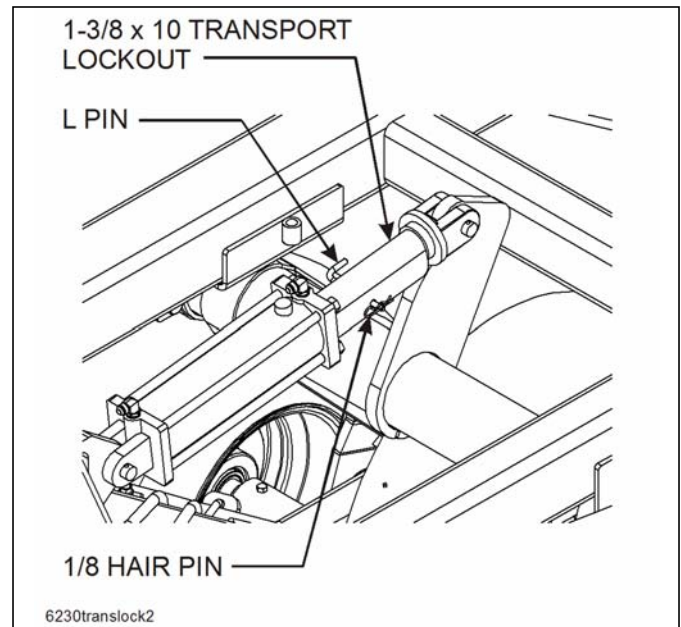
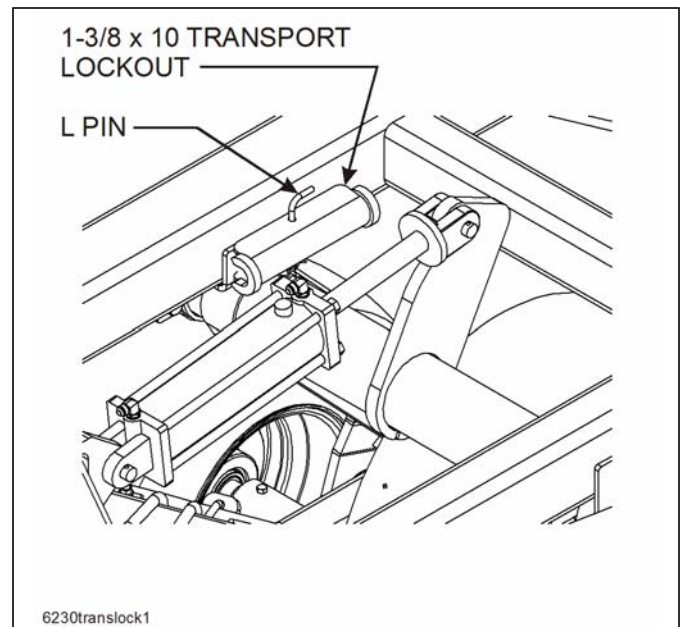

Figure 4-3: Installed Transport Locks
Figure 4-4: Stored Transport Locks
2. The hydraulic system is not filled with oil and should be purged of air before transporting and field operations. Carefully hitch the VT Plus to the tractor and connect the hydraulic lift hoses. Check to make sure the tractor hydraulic reservoir is full of the manufacturer's recommended oil. Slowly raise the machine, and continue to hold the hydraulic lever until all lift cylinders are fully extended. Lower and raise the unit to verify that all cylinders are working simultaneously throughout the stroke. If the cylinders are not working evenly or together, fully extend the lift cylinders and continue to hold the lever to purge any remaining air. Do not loosen any hoses or fittings. Recheck tractor reservoir to make sure it is within operating limits. With all cylinders fully extended, install the 1-3/8 X 10 transport lockouts (**See Figure 4-3.**) Storage location for lockouts (**See Figure 4-4.**)
1. Raise the unit to take the weight off of the transport locks. Remove the transport locks from the lift cylinders (on the main frame only). Store the transport locks on the retainers above the main lift **(See Figure 4-4.)**